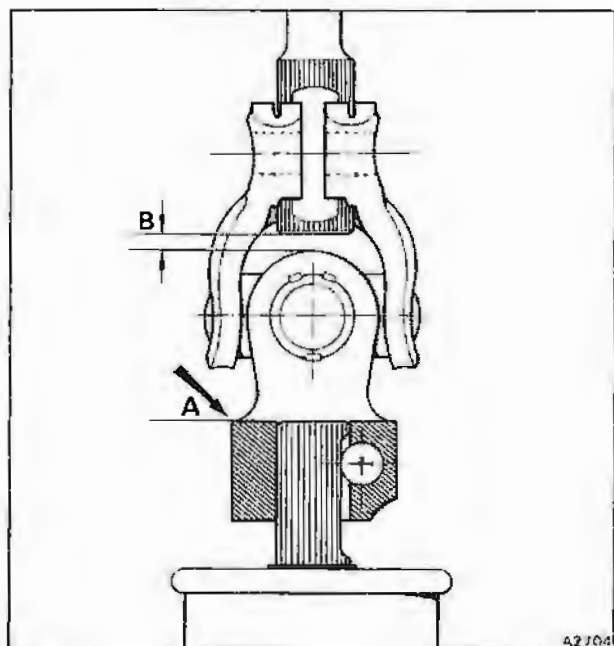

Fig. N5-6 Column to steering unit linkage (1989 model year cars not fitted with 'one-piece' lower linkage)
12. On 1989 model year cars not fitted with a 'one-piece' lower linkage, set the lower linkage coupling to the rack pinion, by lining up the shoulder of the lower yoke with the top of the pinion shaft (see fig. N5-6, A). Then, check to ensure that a gap of at least 0,50 mm (0.020 in) exists between the lower coupling shaft and the universal joint spider (see fig. N5-6, B). Adjust on the rack pinion shaft, if necessary.